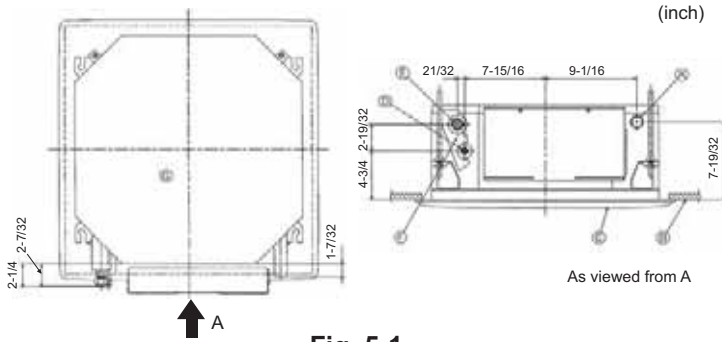
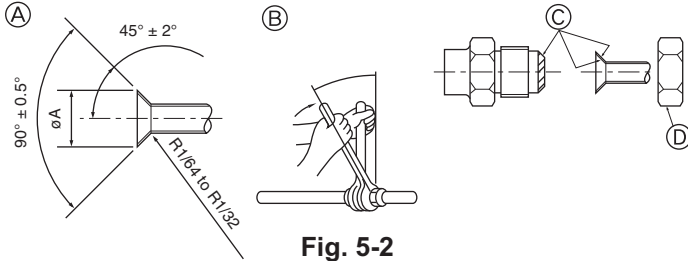

Fig. 5-1
Fig. 5-2
5.1. Refrigerant and drainage piping locations of indoor unit (Fig. 5-1)
- (A) Drain pipe
- (B) Ceiling
- (C) Grille
- (D) Refrigerant pipe (liquid)
- (E) Refrigerant pipe (gas)
- (F) Water supply inlet
- (G) Main unit
5.2. Connecting pipes (Fig. 5-2)